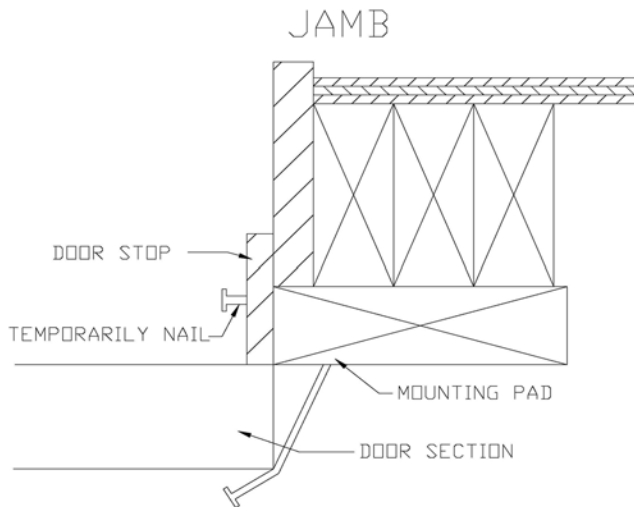
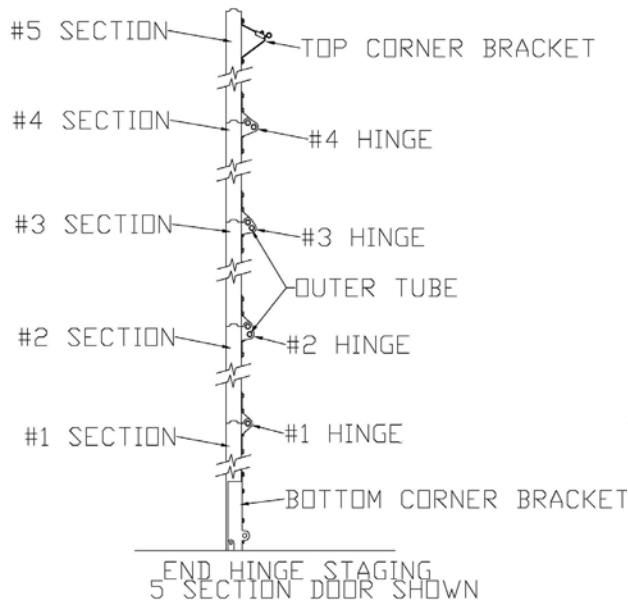

Figure 7
Figure 10
Step 4: Place the bottom section in the opening. Level and hold in place with nails driven into the jam and bent over the edge of the section, shim if necessary to make the sections level. See figure 7 and 8.
Step 6: Continue attaching the hinges and struts, if supplied, to the remaining intermediate sections and stack them in the opening See figure 10, and secure with nails driven into the jamb and bent around the edge of the section as seen in figure 7.
Step 7: If your door is less than 12' wide the top section can be stacked in the opening and secured with nails driven into the jamb and bent around the edge of the section as seen in figure 7.